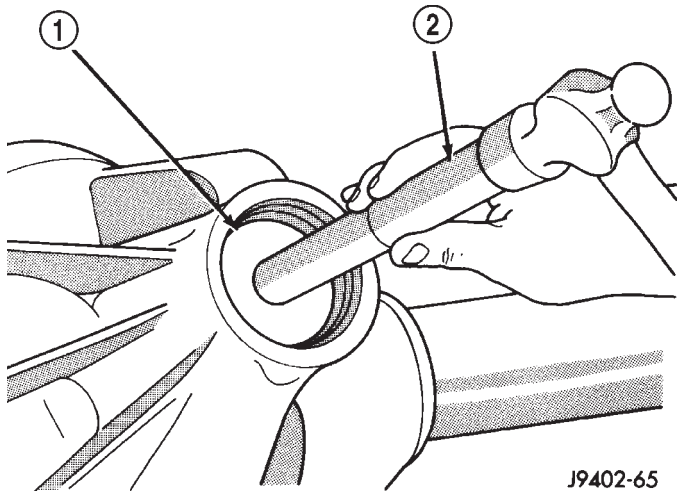
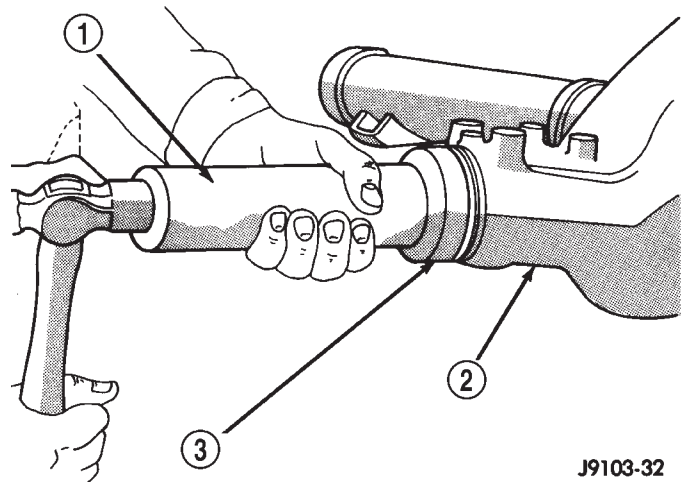

Fig. 31 Pinion Front Bearing Cup Installation J9402-65
Fig. 32 Pinion Seal Installation J9103-32
- (2) Ensure cup is correctly seated.
- (3) Apply Mopar® Door Ease, or equivalent, stick lubricant to outside surface of bearing cup.
- (4) Install the pinion front bearing cup (Fig. 31) with Installer D-130 and Handle C-4171.
- (5) Install pinion front bearing, and oil slinger, if equipped.
- (6) Apply a light coating of gear lubricant on the lip of pinion seal. Install seal with Installer C-4076-B and Handle C-4735-1 (Fig. 32).